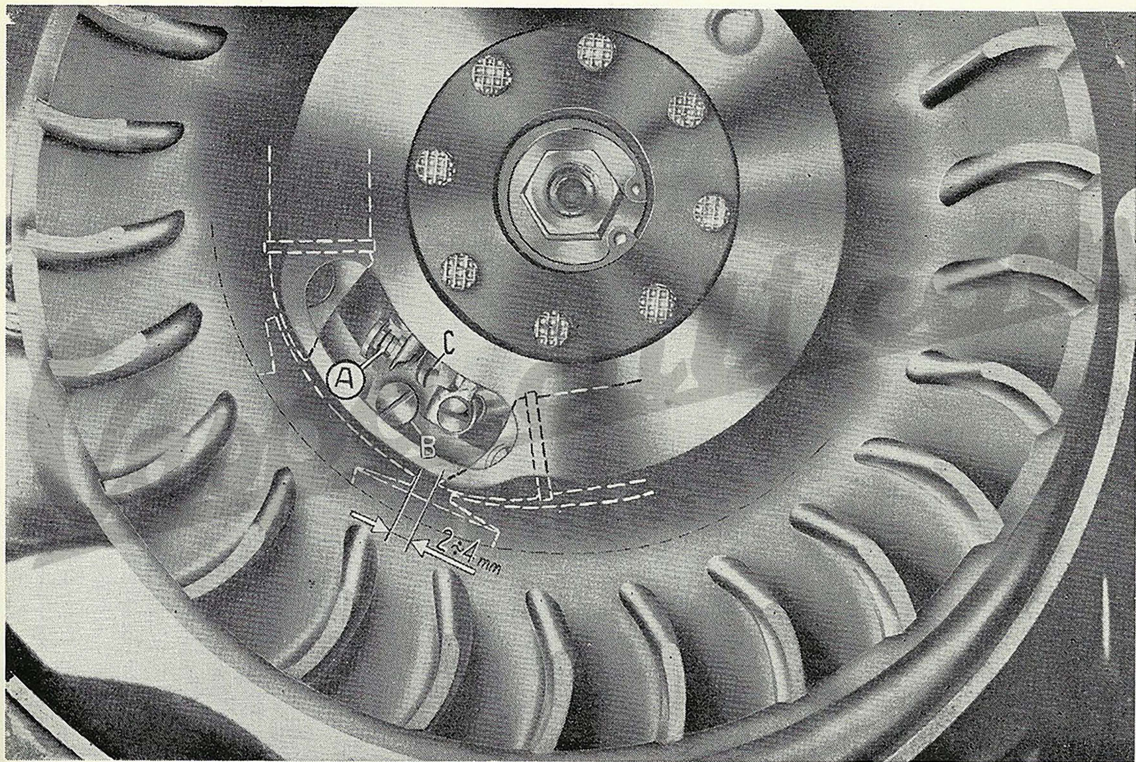

Fig. 16 - Operations for checking the «magnetic» timing of the flywheel.
- 3) - Clean, and if necessary, register the contact breaker points (fig. 16). To avoid a faulty ignition or some other defects, **consult your Service - Station for this operation.**